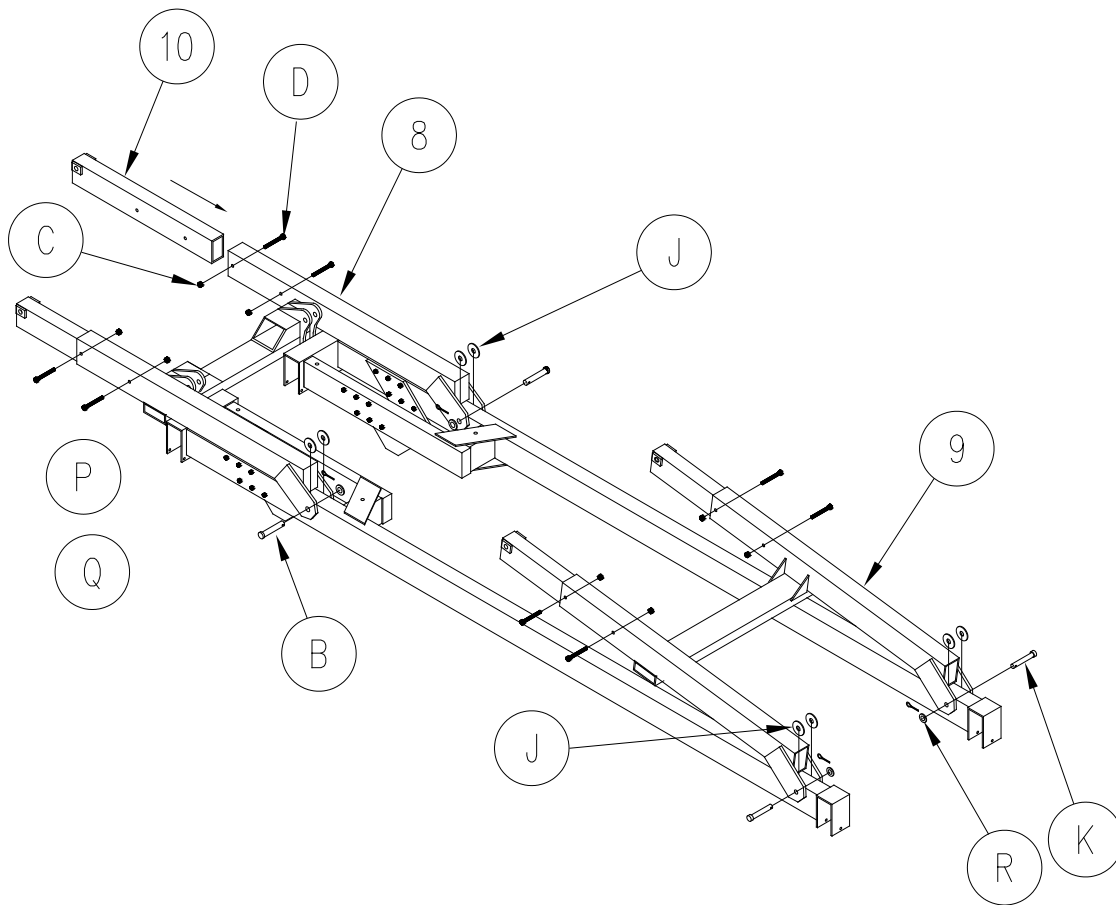

Figure 3-3.
1. **Refer to Figure 3-3.** Install rear lift arm (8) to the main frame. Before inserting clevis pin (B), install nylon washer (J) between the main frame and the lift arm pivot plates. Insert clevis pin (B) through the lift arm end plates and hole in the lift frame. Install flat washer (Q) and cotter pin (P) on each end of clevis pin. Secure clevis pin by spreading end of cotter pin apart and bending around clevis pin.
2. Install front lift arm (9) to the main frame. Before inserting clevis pin (K), install nylon washer (J) between the main frame and the lift arm pivot plates. Insert clevis pin (K) through the lift arm end plates and hole in the lift frame. Install flat washer (R) and cotter pin (P) on each end of clevis pin. Secure clevis pin by spreading end of cotter pin apart and bending around clevis pin.
3. Install lift arm extension tubes (10) to the front (9) and rear (8) lift arms. Use hardware (C) & (D) to secure the arm extensions to the lift arm.